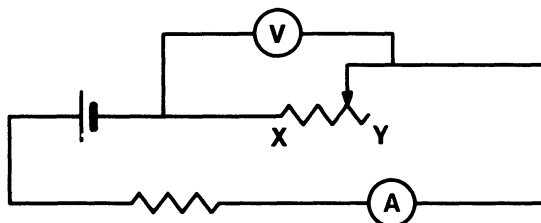

FIG. 3.12
8. In the circuit shown in Fig. 3.12, V is a voltmeter connected across the rheostat and A is an ammeter in series with the rheostat.